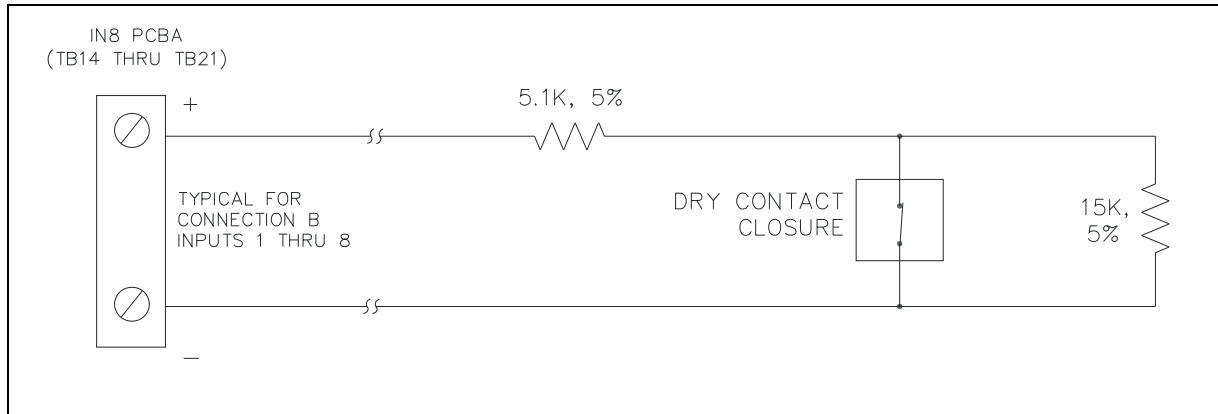

Figure 6. Single Normally Closed Switch (with line supervision)
Use this mode for circuits with a single NC dry contact (see Figure 6) to monitor the circuit for:
2. Install the terminating resistors in series and parallel with the device terminals (see Figure 6).